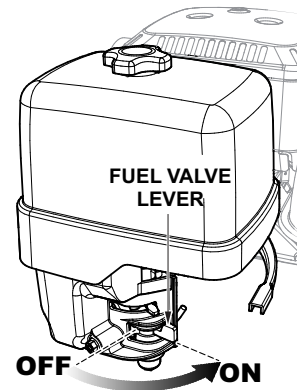

Figure 11. Engine Fuel Lever (ON)
3. Place the engine fuel lever to the **ON** position. (Figure 11).